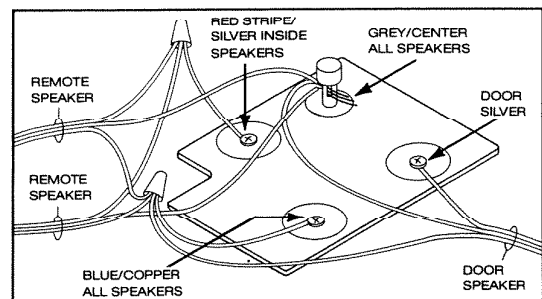

FIGURE 12
7. Completed wiring will look as shown in Figure 12. Of course, more speakers will require more wires. Figure 12 shows wiring for two speakers and a door speaker.